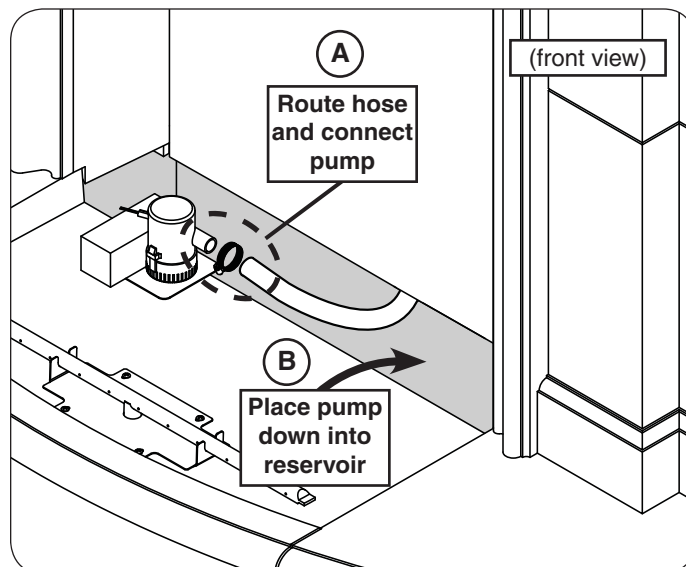

Fig. 24-1 Route hose, connect pump, place pump
2. Route the water hose (connected to rear wall) into the burner trough area (see Fig. 24-1, A).
(See Fig. 24-1, A)
4. Place the water pump down into the water reservoir (see Fig. 24-1, B).